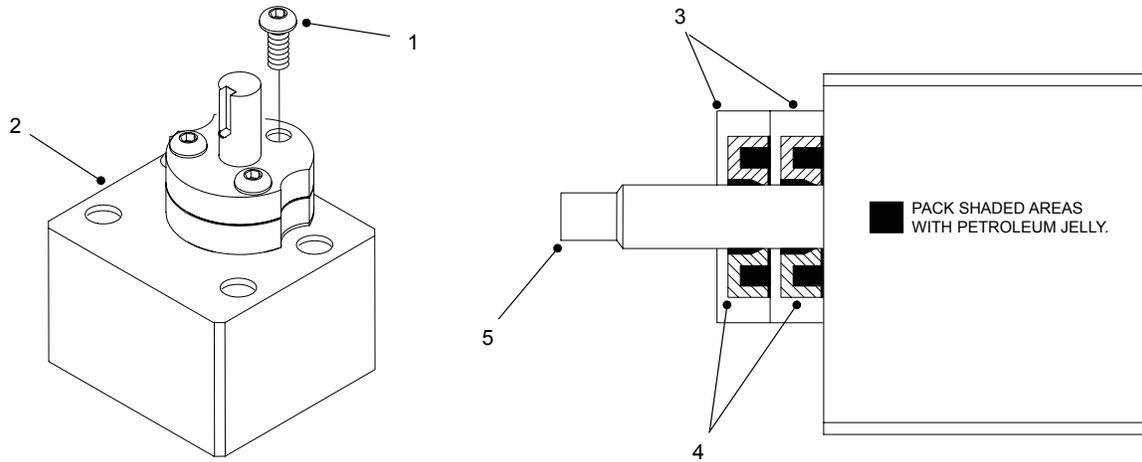

Figure 12 Pump Seals
See Figure 12.
3. Loosen the mounting bracket screws (15). Slide the mounting bracket (16) back and remove the center coupling (2).
4. Loosen the screw (4) securing the lower coupling (3) to the pump (7). Remove the lower coupling and key (8).
5. See Figure 12. Remove the screws (1) securing the seal housings (3) to the pump (2).
6. Note the orientation of the seals (4). Use an O-ring pick to remove the seals from the housings (3).